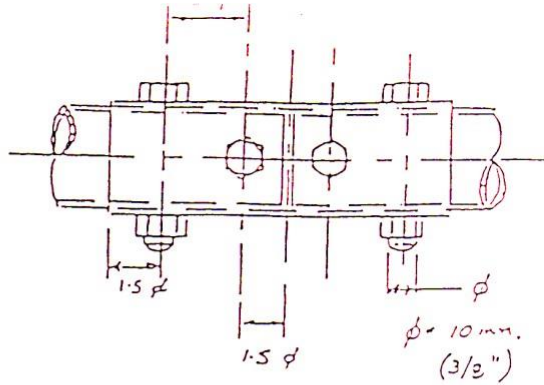

FIG 2
- (f) Muff connections as in fig 2 may be used.